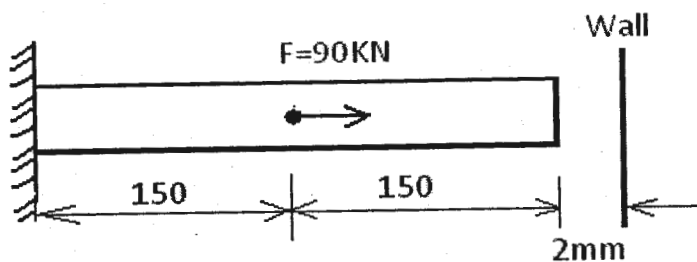

Fig.1
- b) For the loading shown in fig. 1, find nodal displacements, elemental stresses and support reaction. [8]